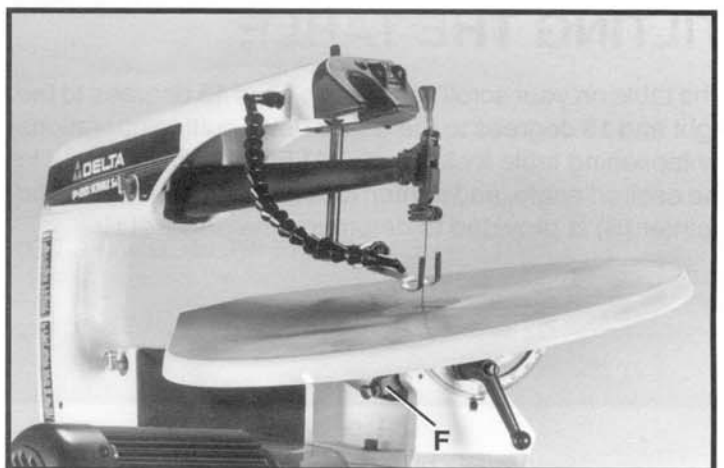

Fig. 34
9. If desired, the table may be tilted to the left up to approximately 15 degrees by repositioning flip stop (F) Fig. 34, as shown.